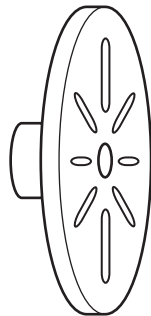

Fig. 4
- 10 Name the piece of lathe equipment shown in Fig. 4 and state its use. [3]